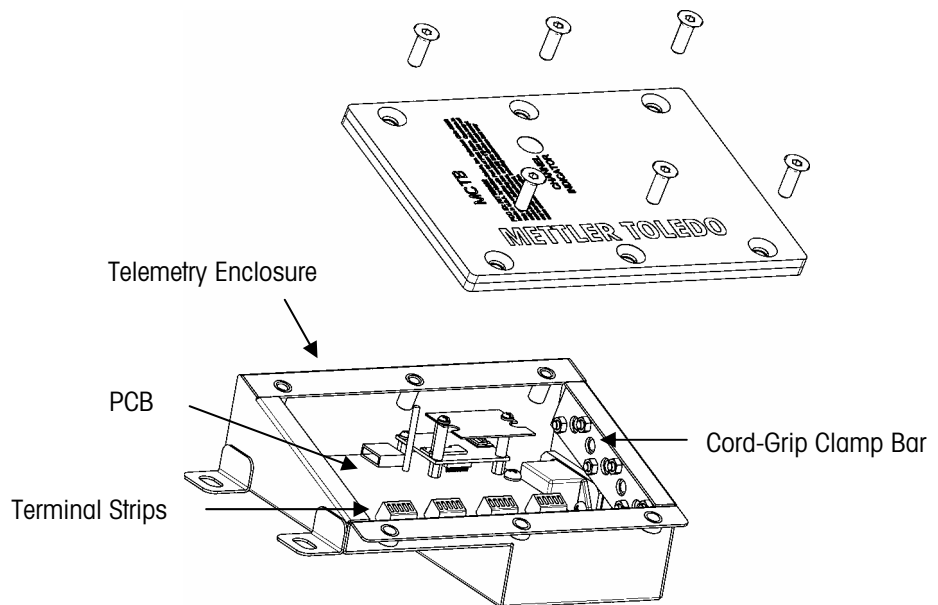

Figure 6-8: Telemetry Enclosure
5. The load cell cables are wired to the four terminal strips on the printed circuit board (PCB) inside the telemetry enclosure (see Figure 6-8). Locate the cable for the load cell that you are replacing. You should be able to identify it by the tag attached to the cable. Disconnect the cable's wires from the terminal strip by inserting the tip of a flat-blade screwdriver into the slot next to each wire and removing the wire from the terminal.
8. Tighten the six nuts on the cord-grip clamp bar (see Figure 6-8). Use a nut driver to tighten the nuts. Be careful to tighten the nuts only to the point at which the cables will not slide through the cord grips. Do not overtighten the nuts.
11. The load cell cables are wired to the four terminal strips on the printed circuit board (PCB) inside the telemetry enclosure (see Figure 6-8). Locate the cable for the load cell that you are replacing. You should be able to identify it by the tag attached to the cable. Disconnect the cable's wires from the terminal strip by inserting the tip of a flat-blade screwdriver into the slot next to each wire and removing the wire from the terminal.
10. Tighten the six nuts on the cord-grip clamp bar (see Figure 6-8). Use a nut driver to tighten the nuts. Be careful to tighten the nuts only to the point at which the cables will not slide through the cord grips. Do not overtighten the nuts. If the telemetry enclosure was removed, mount it to the scale carriage in its original position.